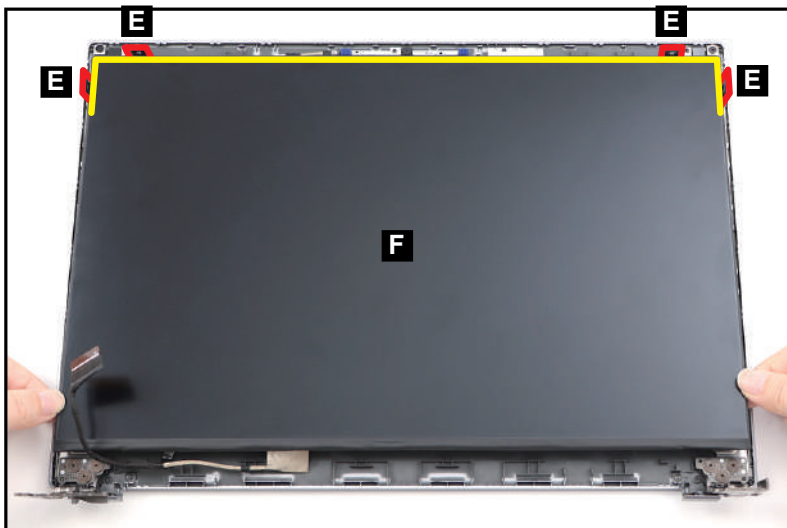

Figure 3-99. Replacing the LCD Panel
5. Place four (4) 0.5mm LCD alignment mylars (E) on the upper sides of the LCD cover as shown in Figure 3-99.
6. Starting from the upper side, carefully place the LCD panel (F) on the LCD cover (Figure 3-99). Then press the LCD panel down until it is firmly seated on the LCD cover.